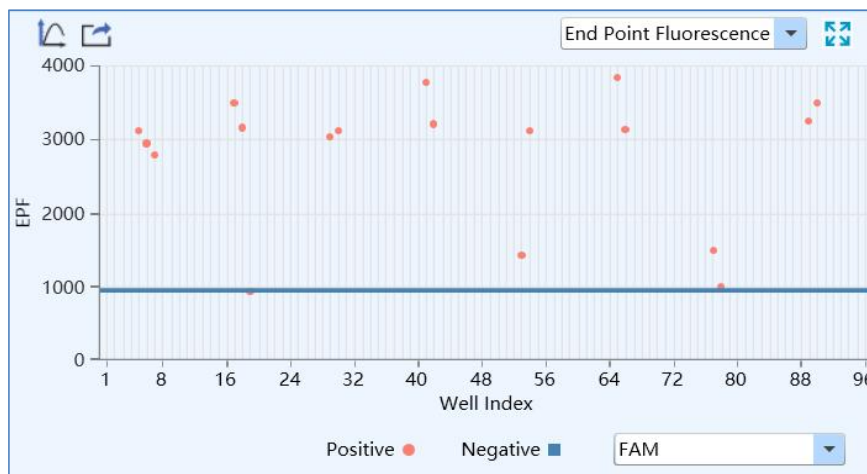

Figure D-18.1. End Point Fluorescence Analysis Interface - End Point Fluorescence Scatter Plot
- I. **End Point Fluorescence Scatter Plot:** display the scatter plot of fluorescence intensities measured at end the point of amplification plateau phase, as shown in figure D-18.1.